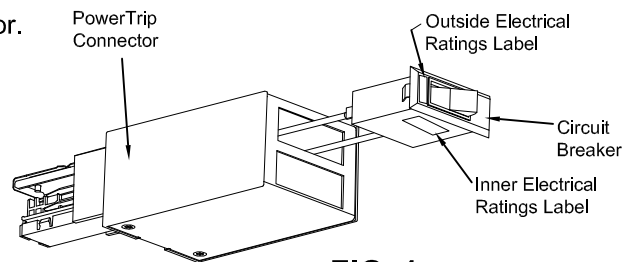

FIG. 1
1. Install circuit breaker with attached wiring per instruction sheet included with the applicable PowerTrip feed connector. (See FIG. 1)
2. Orient INNER ELECTRICAL RATINGS LABEL such that it will be visible after installation. (See Fig. 1)